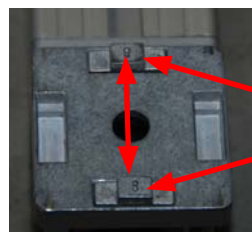
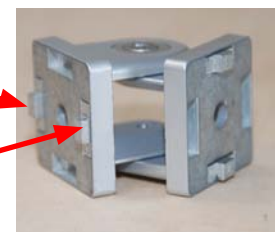
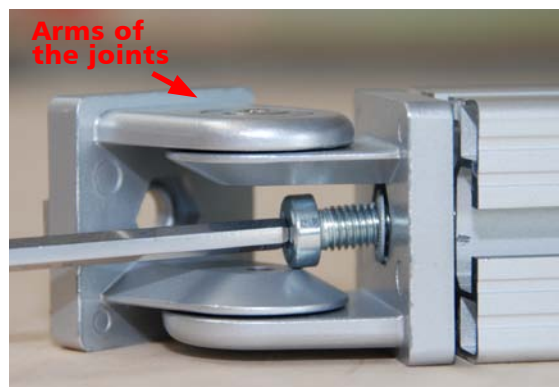

fig. 3.1-12
fig. 3.1-13
fig. 3.1-14
**Step 8** At first, the four (4) threaded inserts will be screwed into the open ends of the angles braces (**A1g**) using a **9 mm | 0.35 inch** slot screwdriver. In order to attach the joints to the angles braces, put two (2) adjusting blocks opposite of each other into the provided holes.
It is very important to insert the adjusting blocks into the holes at the sides where the arms of the joints are located and that the number 8 on top of the adjusting blocks points outwards. (**fig. 3.1-12 and fig. 3.1-13**). You will find that the adjusting blocks marked with number 8 will fit exactly into the lead channels. Now position the joints at the ends of the angles braces and bolt them together using the four (4) socket head screws **M8x25**, the washers and the corresponding Allen key. (**Abb. 3.1-14**).